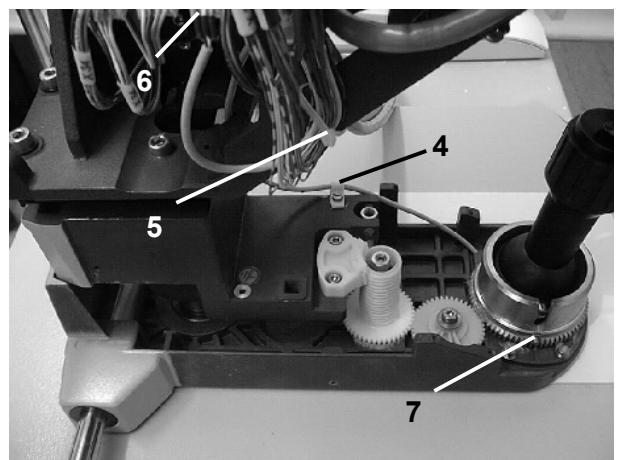

Fig 26b
- Unscrew cable clamp ((4) Fig. 26b) and cut open cable tie ((5) Fig. 26b).
- Disconnect plug-in connection ((6) Fig. 26b) and pull out the cable downward.
- Unscrew stop screw ((7) Fig. 26b) and carefully move the height adjustment upward until the spindle and the nut are no longer in mesh.
- Screw stop screw ((7) Fig. 26b) back in.
- Re-attach cable clamp ((4) Fig. 26b), re-establish plug-in connection ((6) Fig. 26b) and attach a new cable tie.